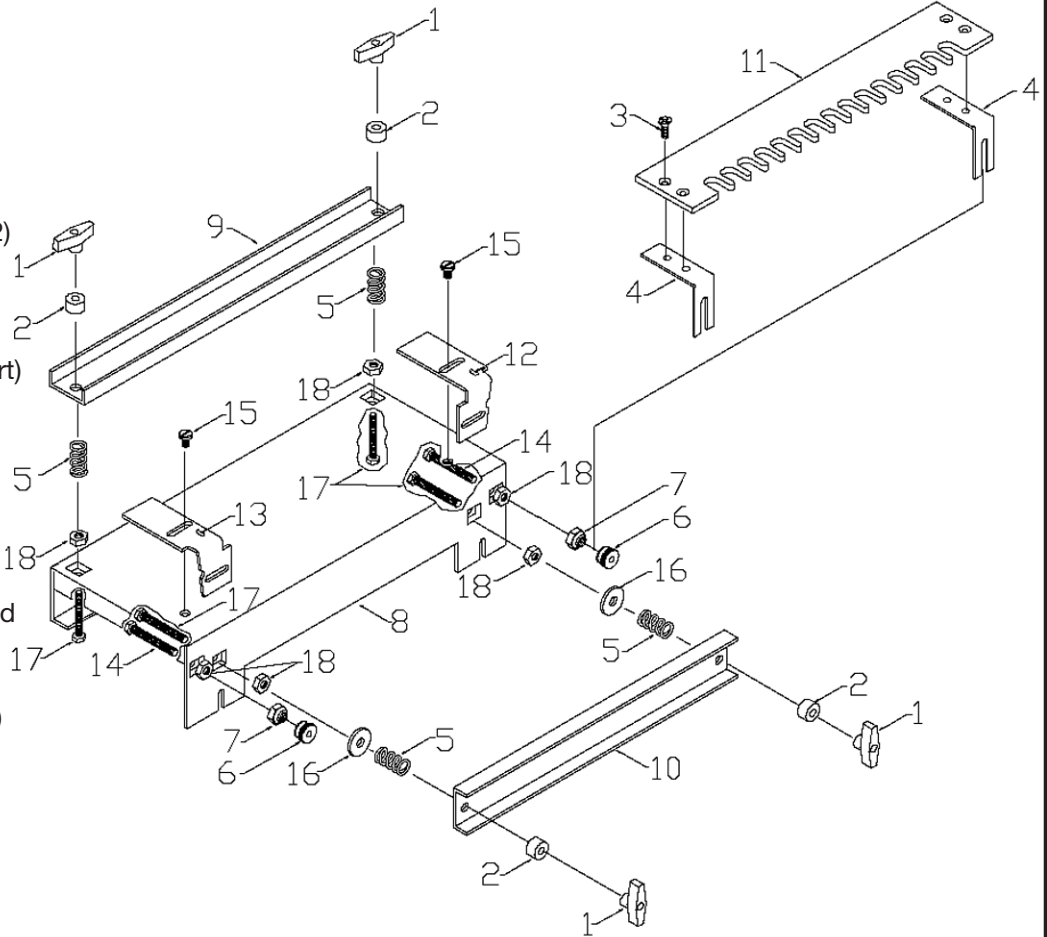
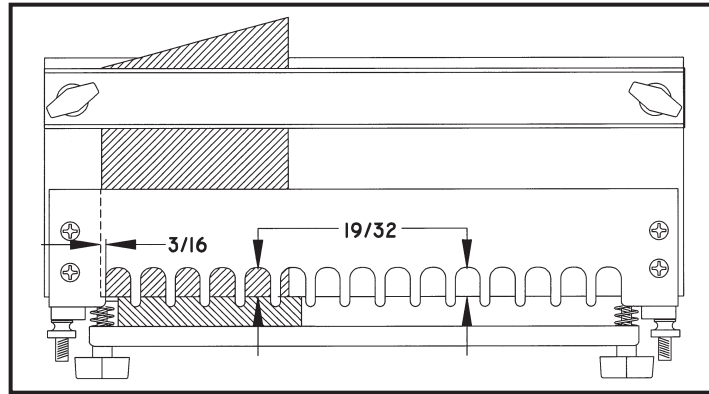

Fig. 1
Fig. 8
NOTE: Refer to Fig. 1 for the various parts of the Model 4112 Dovetail Fixture/Jig.
Front to back positioning of the templets is accomplished by varying the location of the locknuts (item 7, Fig. 1).
2. Loosen edge guide retaining screw, (item 15, Fig. 1) and slide edge guide to drawer front and secure in place.
3. Place the $\frac{1}{2}$ " half-blind dovetail templet on top of the drawer front. Using a standard scale or ruler, adjust locknuts, item 7, Fig. 1, so there is $\frac{19}{32}$ " from back of templet slots to edge of drawer front at both ends of templet (see Fig. 8). Tighten knurled nuts, item 6, Fig. 1, to secure templet in place.
4. Loosen top clamp bar and position drawer front so that the left edge is $\frac{3}{16}$ " (see Fig. 8) past the left edge of the first templet slot and clamp in place.